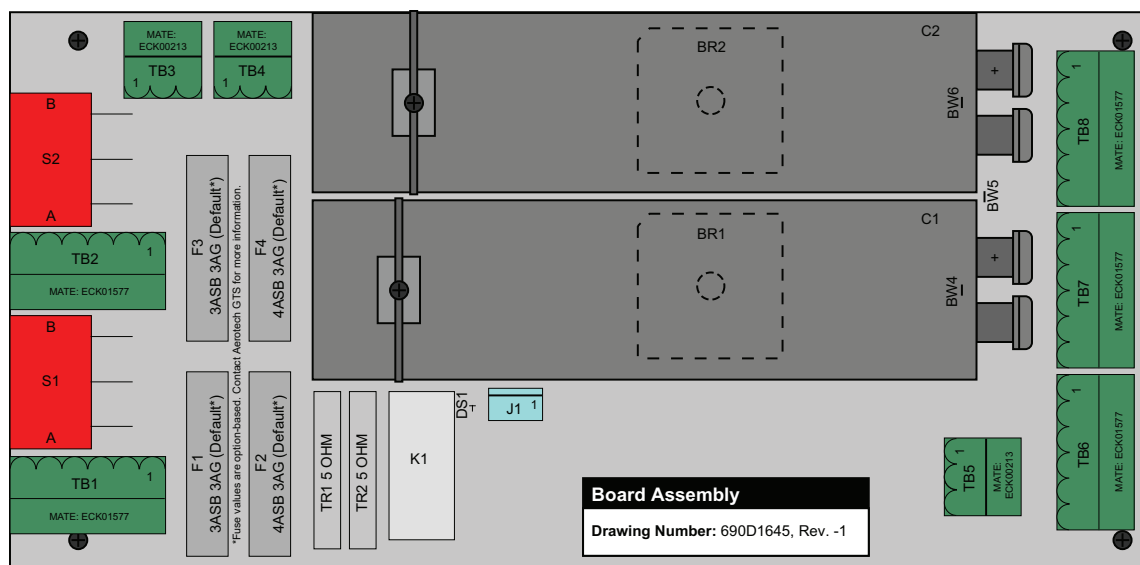

Figure 4-1: Power Board
1.07.00a Changes: Updated fuse information on Figure 4-1.